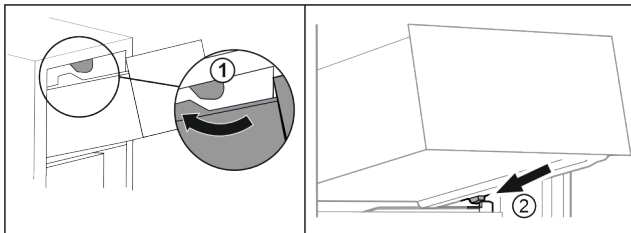

Fig. 101
- Guide drawer around the upper stoppers. Fig. 101 (1)
- Place drawer at an angle behind the lower stoppers onto moulded rib. Fig. 101 (2)